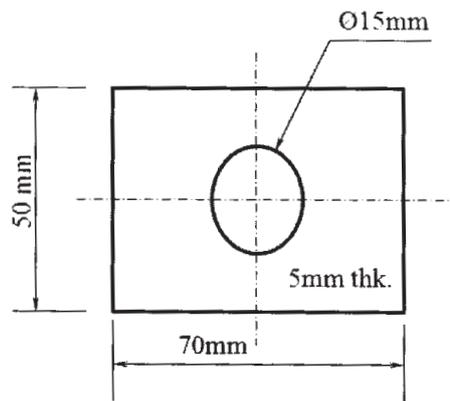

Fig. 1
b) Define clearance. Find the punch and die size to blank and pierce the part shown in fig.1, considering clearance 15% of stock thickness. [6]